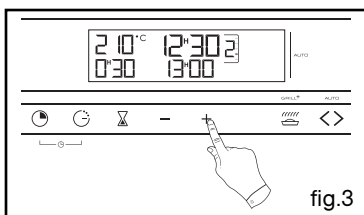

fig.3
Adjust the time setting using the + or - buttons (fig.3).
You can also adjust the temperature by moving the temperature selection knob to + or - (fig.3)
Example: 30 min cooking (fig.3).
- 0:00 and the cooking time flash (fig.3).
Example: position “”-> shelf 1 or 2 recommended (fig.3).